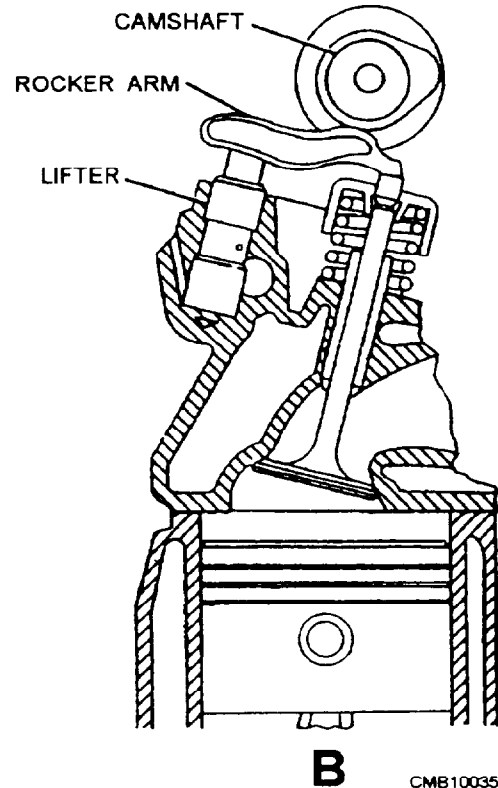

Figure 2-15.—Single overhead camshaft configurations.
- **SINGLE OVERHEAD CAMSHAFT** (fig. 2-15)—The camshaft is located in the cylinder head. The intake and the exhaust valves are both operated from a common camshaft. The valve train may be arranged to operate directly through the lifters, as shown in view A, or by rocker arms, as shown in view B. This configuration is becoming popular for passenger car gasoline engines.